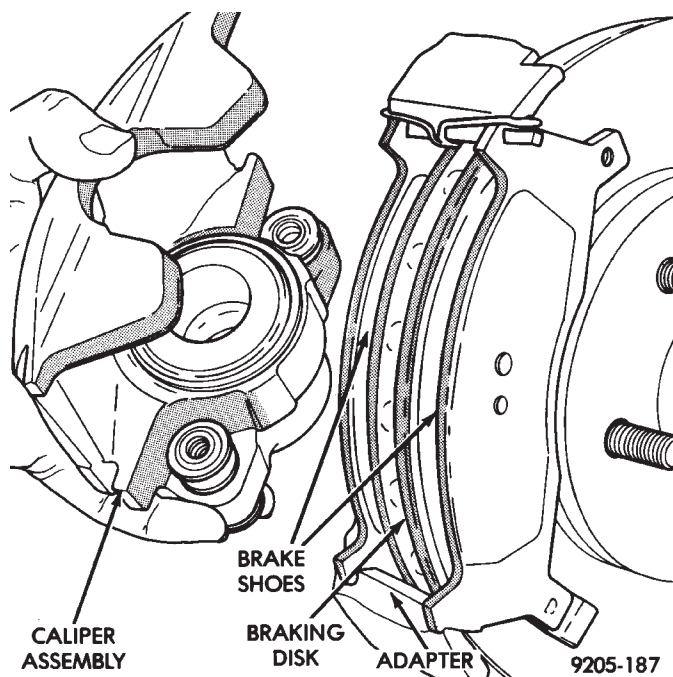

Fig. 3 Removing or Installing Caliper Assembly
- (5) Remove caliper assembly from braking disc and adapter by sliding the assembly out and away from the braking disc and adapter (Fig. 3).